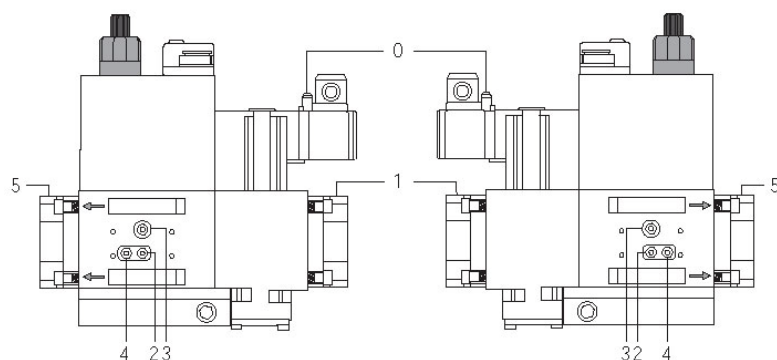
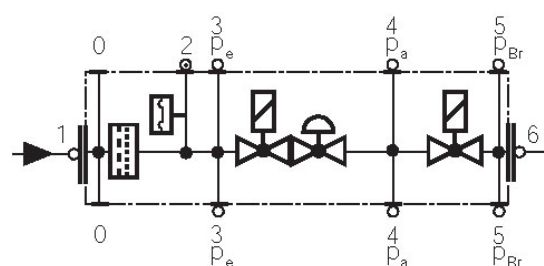

Fig. 41
Fig. 42
- Change the filter if the pressure difference between pressure connection 1 and 2 (Fig. 41-Fig. 42) $\Delta p > 10$ mbar.
- Change the filter if the pressure difference between pressure connection 1 and 2 (Fig. 41-Fig. 42) is twice as high compared to the last check.